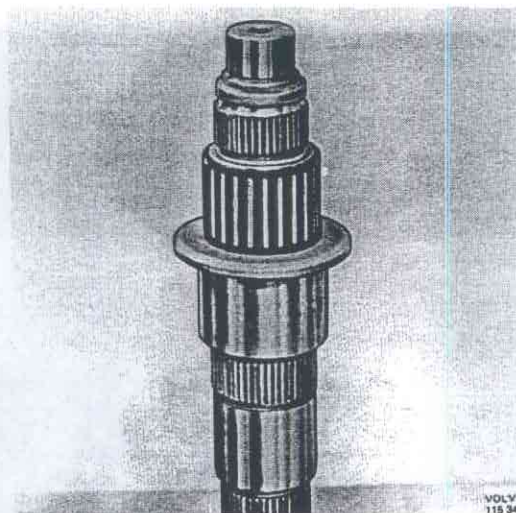

Fig. 43-80. Needle bearing for 3rd gear
1. Oil the needle bearing for 3rd gear and place it on the shaft, Fig. 43-80.